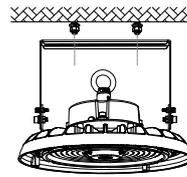
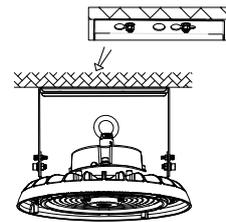

Figure 5
Figure 6
Step3. Align the bracket hole with screw hole (Figure 5), and push the fixture to one side (Figure 6) and fix it.